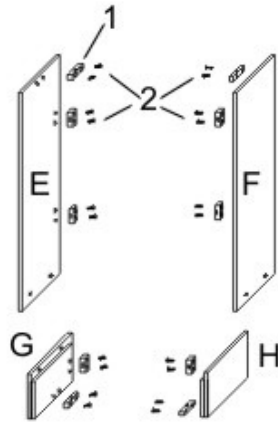

Fig. 1
**Step 1:** Attach 6 Plastic Connectors (1) in the LEFT & RIGHT UPPER SIDE PANELS (E, F) with 12KD Screws (2). Attach 4 Plastic connectors (1) in the LEFT LOWER & RIGHT LOWER PANELS (G, H) with 8 KD SCREWS (2). See Fig.1.